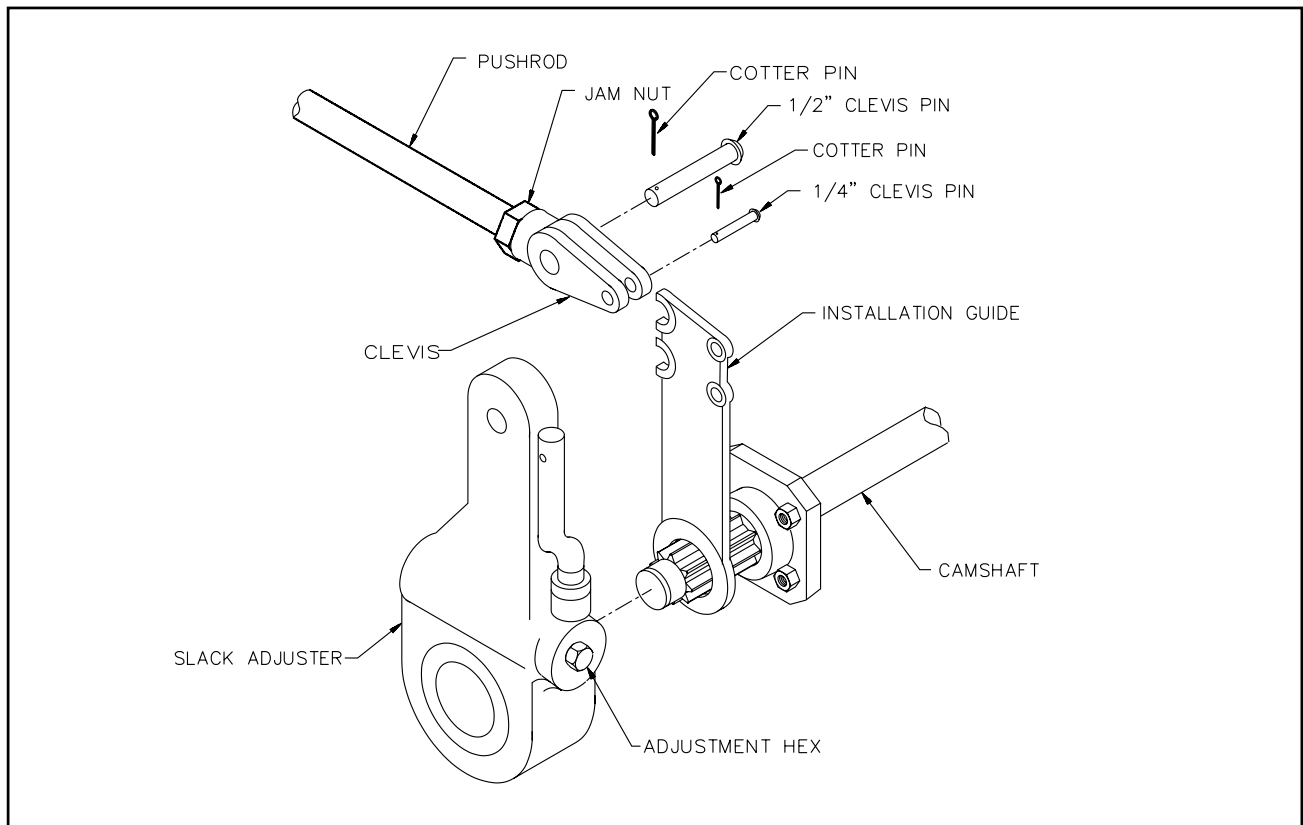

Figure 4-4 Slack Adjuster
4. Disconnect the slack adjuster from the connecting rod by removing the clevis pin (**See Figure 4-4**).
4. Remount the brake chamber on the axle brackets and reconnect the air service hoses and the slack adjuster connecting rod (**See Figure 4-4**).
a. **Operational Check (See Figure 4-4)**
b. Replacing Slack Adjuster (See Figure 4-4)